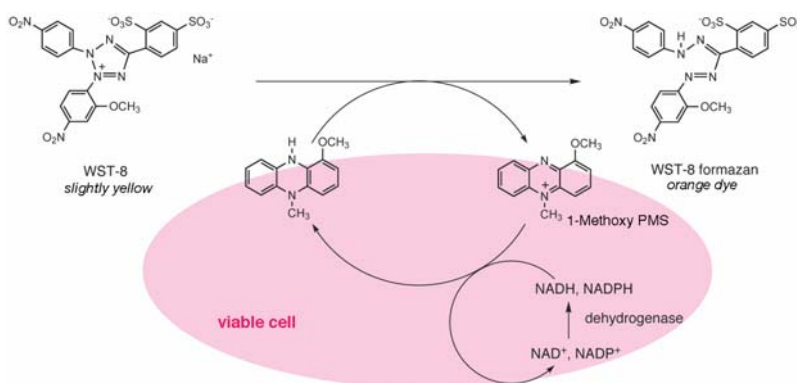

Fig. 8 Cell viability detection mechanism with CCK-8
**A** WST-8 is reduced to an orange-colored formazan through 1-methoxy PMS by NADH and NADPH which are generated by cellular activities as indicated in the Fig. 8. The amount of WST-8 formazan is dependent on the activity of cellular dehydrogenase, so WST-8/1-Methoxy PMS system can be used to determine the number of living cells and cell viability.